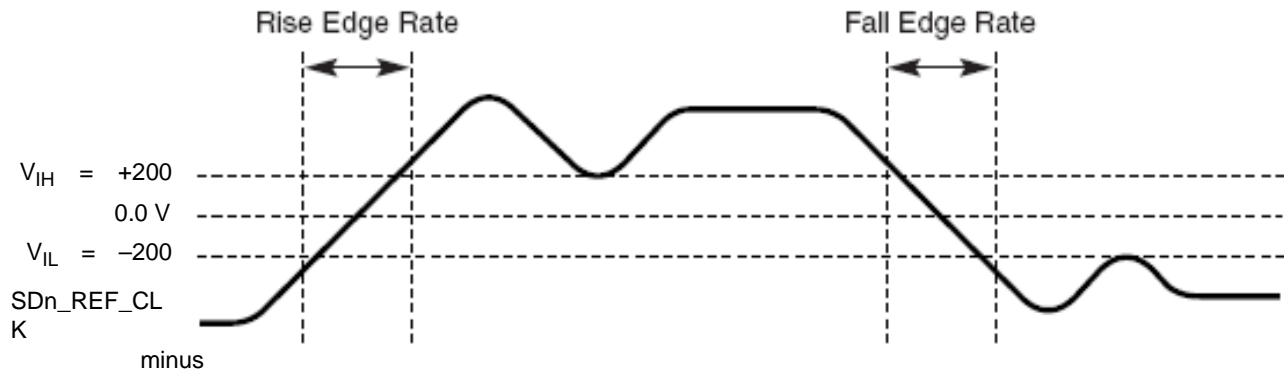

Figure 47. Differential Measurement Points for Rise and Fall Time
3. Measured from -200 mV to +200 mV on the differential waveform (derived from SDn_REF_CLK minus $\overline{\text{SDn_REF_CLK}}$). The signal must be monotonic through the measurement region for rise and fall time. The 400 mV measurement window is centered on the differential zero crossing. See Figure 47.